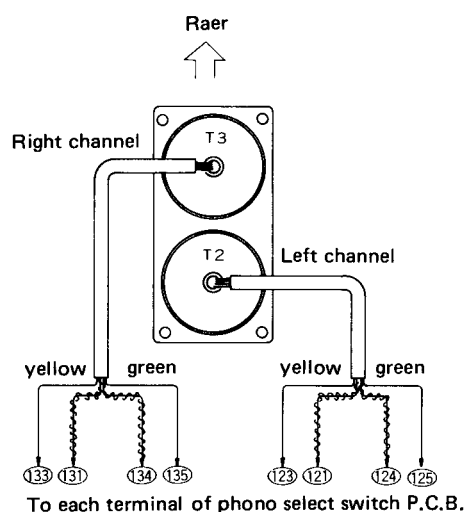

Fig. 7
6. For the wiring of booster transformer, refer to Fig. 7.